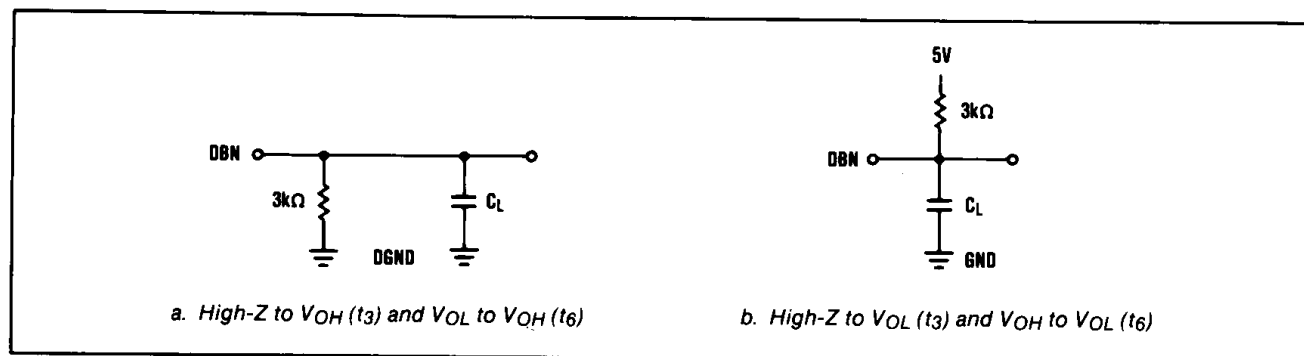

Figure 1. Load Circuits for Access Time
**Note 10:**  $t_3$  and  $t_6$  are measured with the load circuits of Figure 1 and defined as the time required for an output to cross 0.8V or 2.4V.